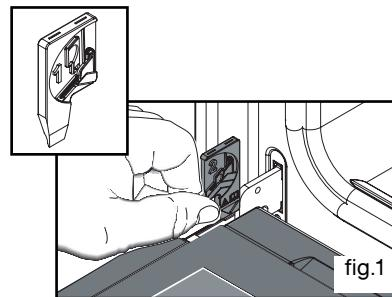

fig.1
- Open the door all the way and fix it in place using the two red stops (fig.1).